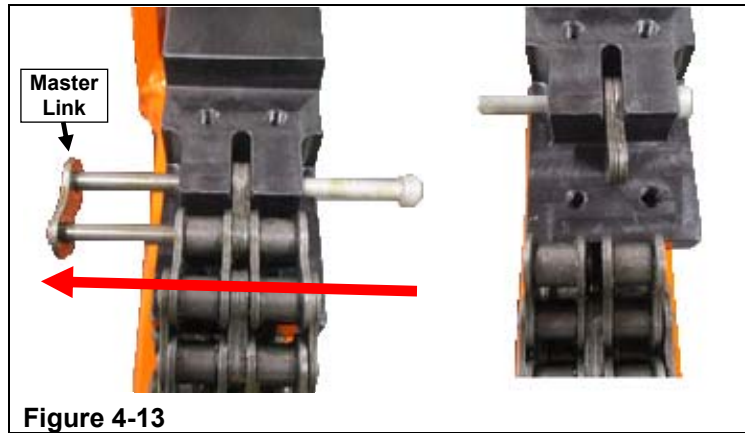

**Figure 4-11**
Step 11. Using needle-nosed pliers and a screwdriver, remove the master link keeper clip from the roller chain. (Refer to Figure 4-11)